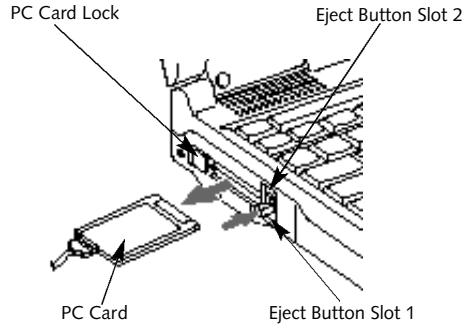

Figure 4-11 Installing and Removing a PC Card
3. Insert the PC Card in the card slot, with the product name label facing up. (Figure 4-11.)
4. When the card is installed, lock it in place by sliding the lock button to the right. (Figure 4-11.)